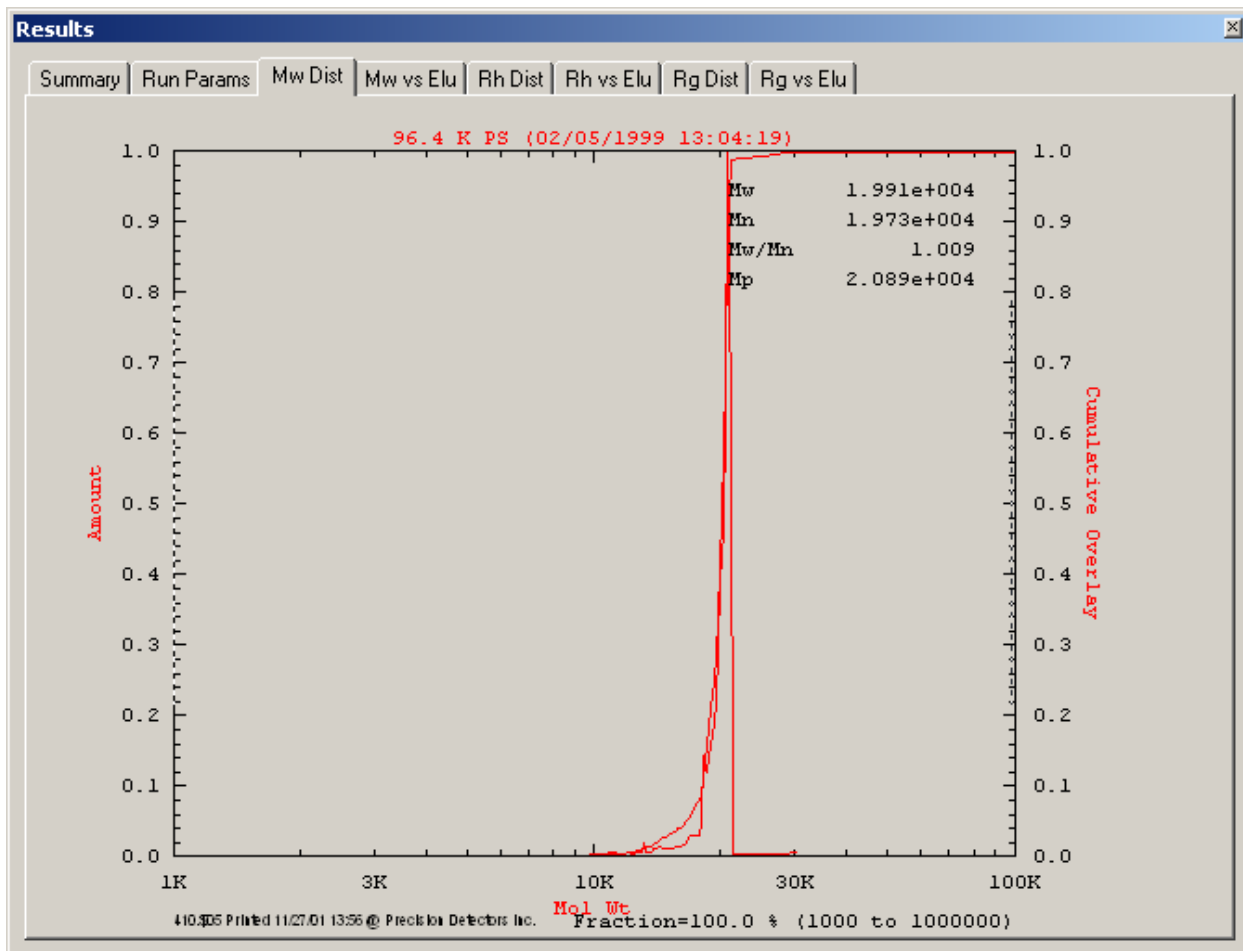

Figure 7-19: Molecular Weight Distribution Plot
- d) Click the *Mw Dist* tab to present a molecular weight distribution (Figure 7-19).